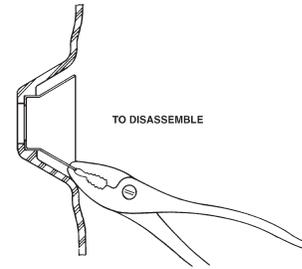

Figure 12
1. Remove copper insert as shown in Figure 12. do not deform.